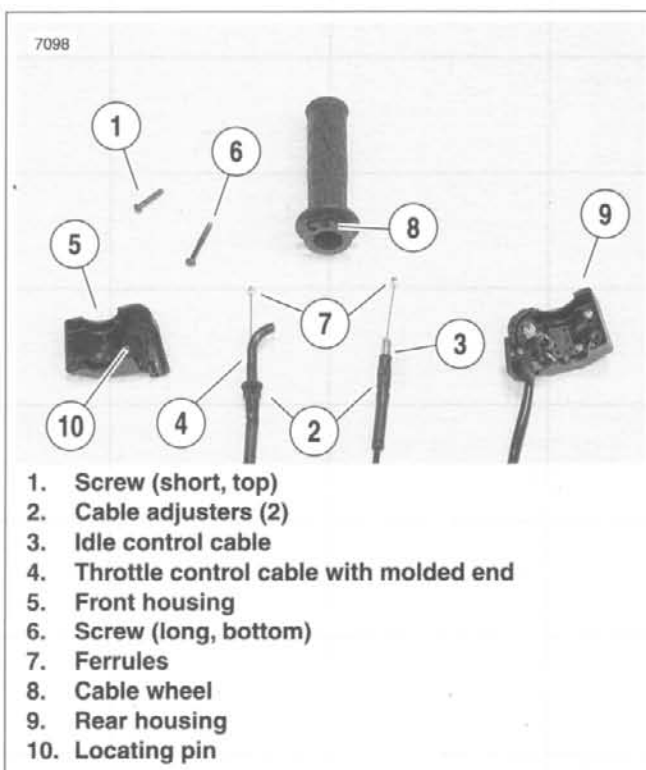

Figure 2-127. Cable Connections
2. See Figure 2-127. Remove two screws (1, 6) on front housing. Separate housings from handlebar.
3. Unhook ferrules (7) from cable wheel (8).
1. See Figure 2-127. Place cable assemblies (3, 4) into housings (5, 9). Throttle control cable (4) has a molded fitting end and is positioned inside the front housing (5). Idle control cable (3) has a smaller fitting end and is positioned inside the rear housing (9).
3. Attach ferrules (7) to cable wheel (8). When properly assembled, notches for ferrules will be at 12 o'clock.
4. Position housings on right handlebar by engaging locating pin (10) on front housing with hole in handlebar. Attach housings with two screws (1, 6), installing longer screw on bottom. Tighten to 12-17 in-lbs (1.4-1.9 Nm).